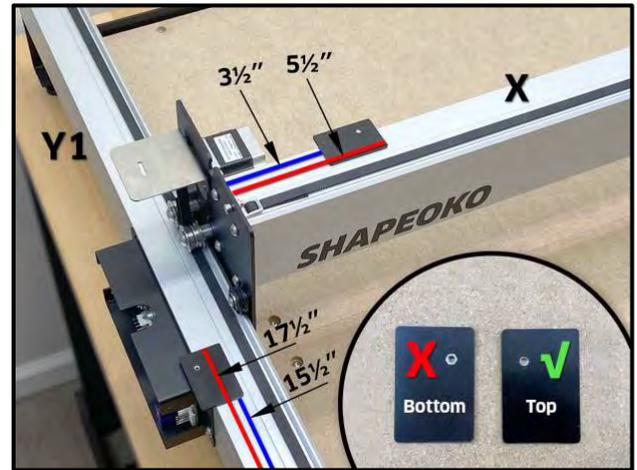

Figure 33
1. Attach one (1) tail plate to the X-rail. See **Fig. 33**.
2. Attach one (1) tail plate to the Y1-rail. See **Fig. 33**.